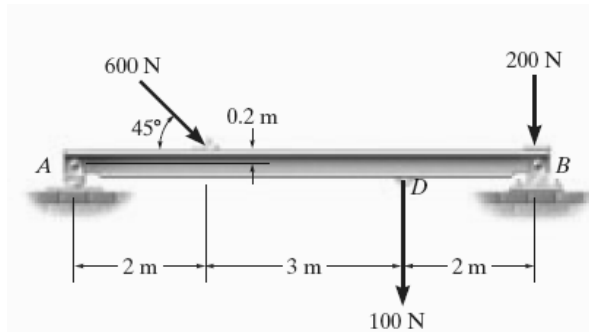

Figure 2-1
1. Determine the horizontal and vertical components of reaction for the beam loaded as shown in **Figure 2-1**. Neglect the weight of the beam in the calculations.